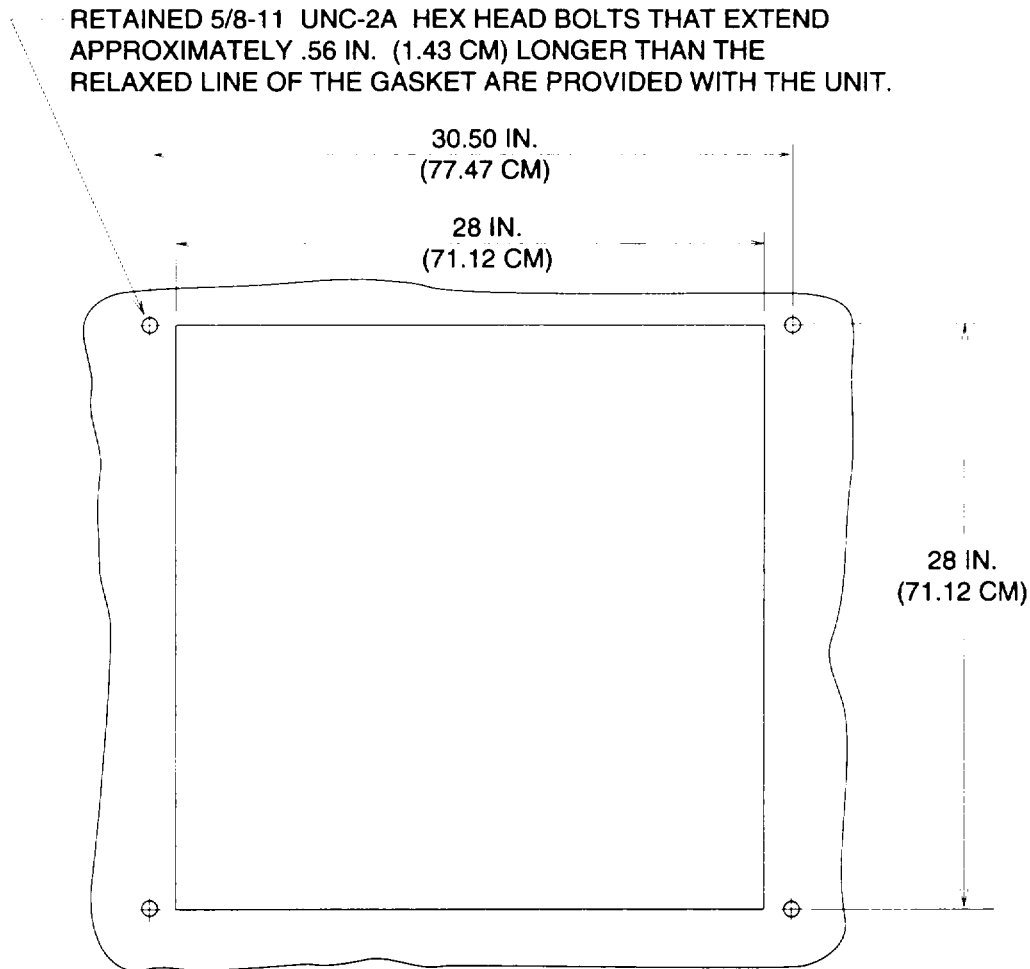

Figure 4-1. Wall Opening Dimensions
b. Refrigerator Enclosure Preparation The refrigerator enclosure must have an opening 30.50 inches (77.47 cm) wide and 28.00 inches (71.12 cm) high (fig. 4-1) to insert the refrigeration unit. If an opening does not already exist in the enclosure, see the enclosure manual for information on making such an opening.